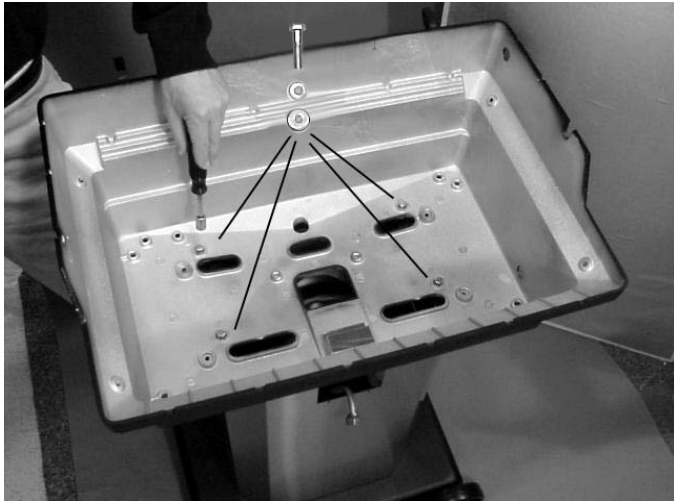

Figure 5 Placement Holes in Lower Grill Casting for Hex Bolts
4. Place lower grill casting on top of pedestal lining up four bolt holes (located just above air vents) with cage nuts just installed (see Fig. 5). Then insert the 4-1/4" X 20" X 1 1/4" hex bolt each with a 1/4" flat washer and 1/4" lock washer. When all four are in place, tighten bolts securely.